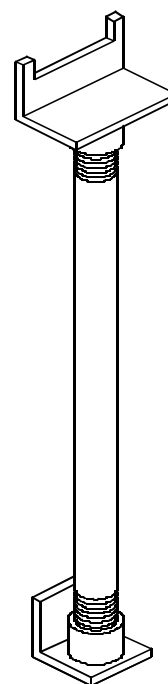

Figure 73
15. Position the 38.1 cm (15 in.) support brace (P/N P/N 3-0063-171-01-6) between the top chamber actuator bracket and the 7 mm. step of the front tunnel extrusion. Refer to Figure 73. The actuator bracket is attached to the hood and is at the uppermost portion of the actuator.